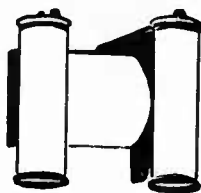

Figure 212.—A fairlead.
3. A fairlead (fig. 212) at the top of the boom large enough to pass the hook and its chokers through, and with a big enough horizontal roll not to cause undue stresses in the wire rope. This fairlead should be kept well lubricated to insure against undue wear to, and grooving by, the cable. The rollers should be made from hardened rather than soft steel.